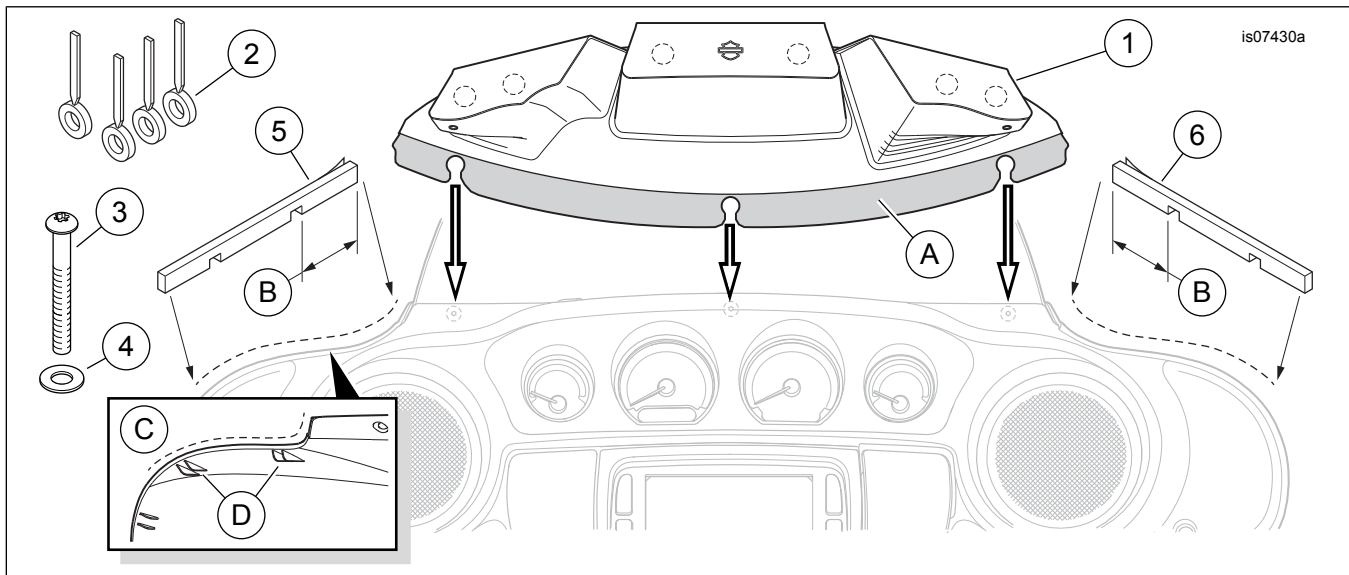

Figure 3. Service Parts, Multi-Pocket Fairing Pouch
See Figure 3 and Table 1.
- a. Remove four screws (2) retaining the outer fairing to the inner fairing. Remove windshield. Remove outer fairing.
- b. See Figure 3. Clean the inside edges at each end of the **outer** fairing in the area of the dashed lines with a 50-50 mixture of isopropyl alcohol and distilled water. Allow to dry completely.
- c. Test-fit the seals to the fairing before installation. Do not remove the protective tape until ready to apply the seals. The foam seals (5 and 6) are side-specific. The notches **are not** centered on the seals. One end segment is 64 mm (2.5 in) long, slightly longer than the opposite end. When installed on the outer fairing, the notches face down, positioned over the two alignment features (D) closest to the center of the fairing (see inset C). The longer end segments install toward the center of the fairing.
3. Get the **new**, longer screw (3) and **new** washer (4) from the kit. Install the washer onto the screw threads. Insert the screw into the upper center mounting hole. Start the screw into the center windshield mounting threaded insert in the inner fairing, but do not tighten.
4. Get **one** of the shorter original equipment (OE) windshield mounting screws removed earlier. Start the screw into one side windshield mounting hole.
5. See Figure 3. Slide the lower portion (A, shown shaded) of the fairing pouch (1) between the inner and outer fairings. Position the center notch and one side notch onto the screws. Slide the windshield down between the **outer** fairing and the fairing pouch.